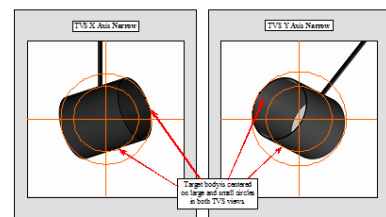

Figure 2: Final Target Alignment
5. Use translation stages to align the target body to TCC, as shown in Figure 2.